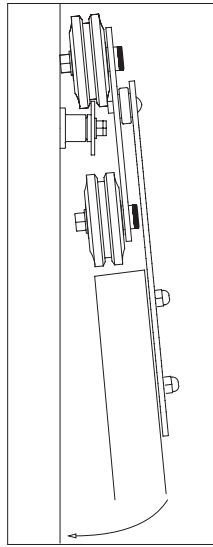

Figure 6
11. Hang the door, ensuring that all eight (8) wheel grooves have contact with the track (Figure 6).